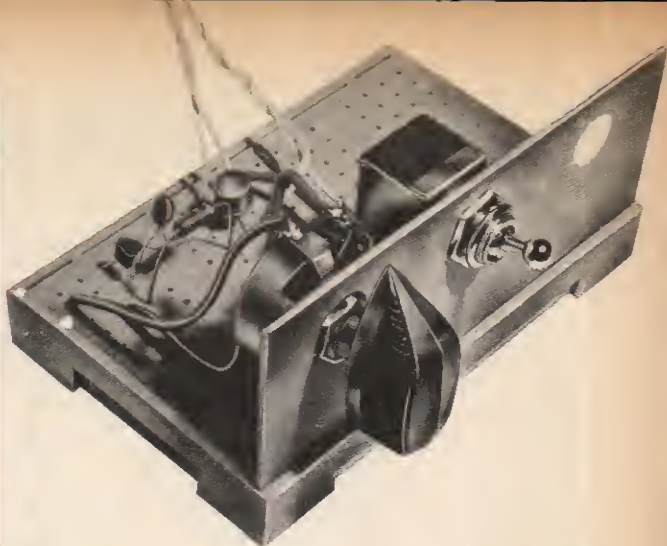

*Fig. 2. Metronome circuit has a nearly linear tempo control and loudspeaker output.*
**Reader's Circuit.** In the majority of metronome circuits using simple R-C timing networks, the tempo (frequency) adjustment has most of its control "squeezed" near one end of the operating range. Seeking to minimize this problem, reader Richard K. Brush (1965 East 3375 South, Salt Lake City, UT 84106) decided to develop his own design for a metronome. His circuit (Fig. 2) features a nearly linear tempo control, loudspeaker output, and, interestingly, discrete devices rather than an IC.